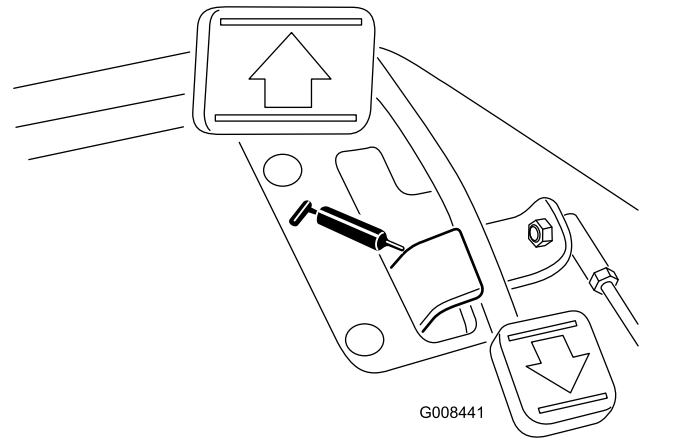

Figure 30
- Traction pedal pivot (1) (Figure 30)